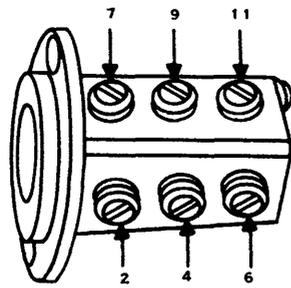

Figure 29. Number 47C Connecting Block.
7.06 The number 47 (or other) connecting blocks are intended for flush mounting, are suitable for line cords with wing-band or S-hook strain relief, and can be used with ring-head reliefs. Two self-tapping screws for mounting are supplied with each block. Number 47B and number 47D blocks are provided with terminal designations R, G, Y and B, similar to those on the number 42A blocks. Terminals on the number 47C block are numbered in pairs on adjacent surfaces, with terminals 1, 3, 5 on one surface, 2, 4, 6 on the next, and so forth as shown in Figure 29.